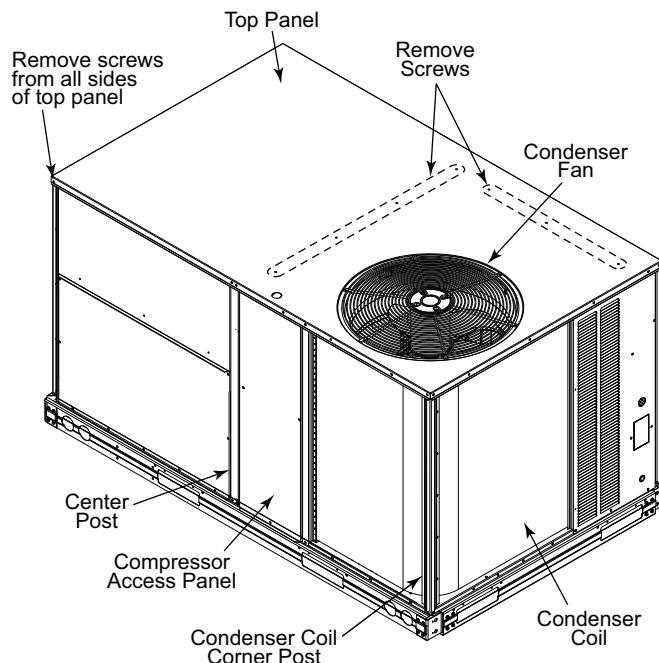

Fig. 18 — Location of Screws and Coil Corner Post
2. Remove all screws from the top panel except the screws securing the condenser fan to the top panel (see Fig. 18).